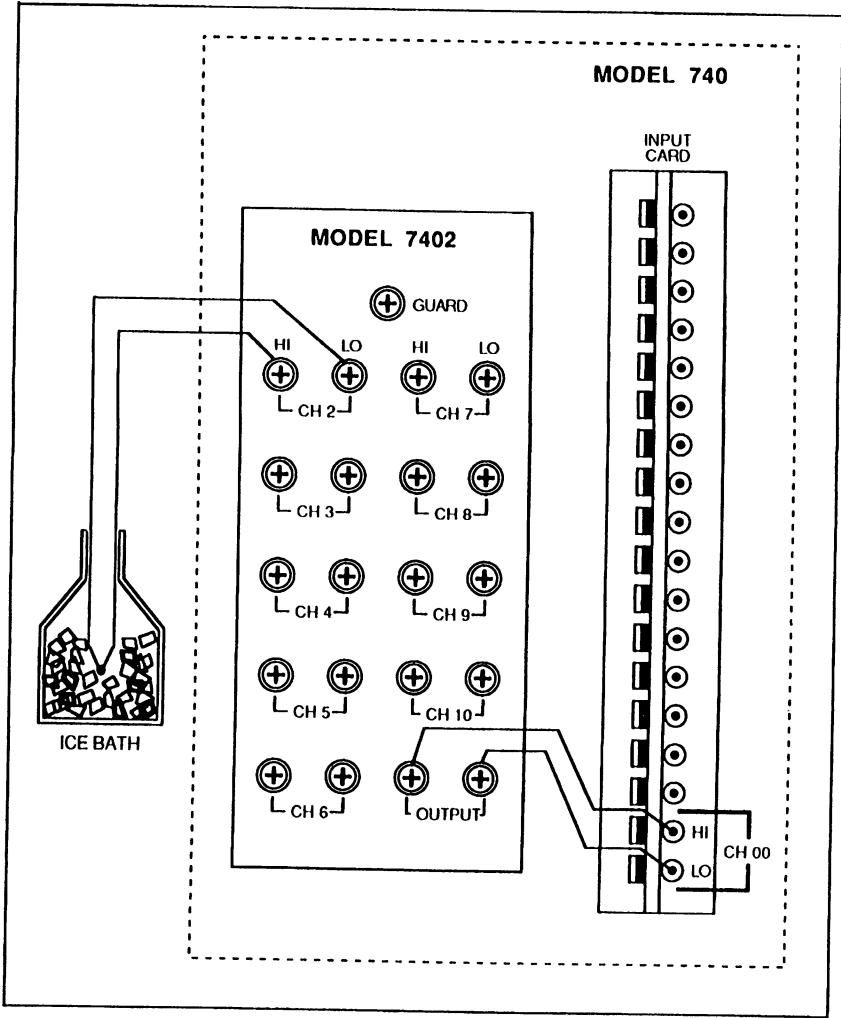

Figure 3-1. Calibration with Thermocouple Wire
1. On the Model 7402, connect the thermocouple positive lead to Channel 2 HI and the negative lead (red insulation) to Channel 2 LO. See Figure 3-1. Route the wire through the cable clamp. Also insert a small non-metallic screwdriver through the cable clamp to adjust trimmer R2.